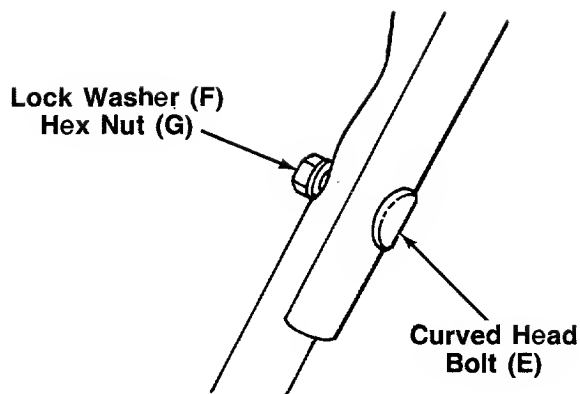

FIGURE 3.
2. Place the upper handle in position over the lower handle. The control bracket must be on the right hand side of the handle. Secure the left hand side of upper handle using the curved head bolt (E), lock washer (F) and hex nut (G) as shown in figure 3.